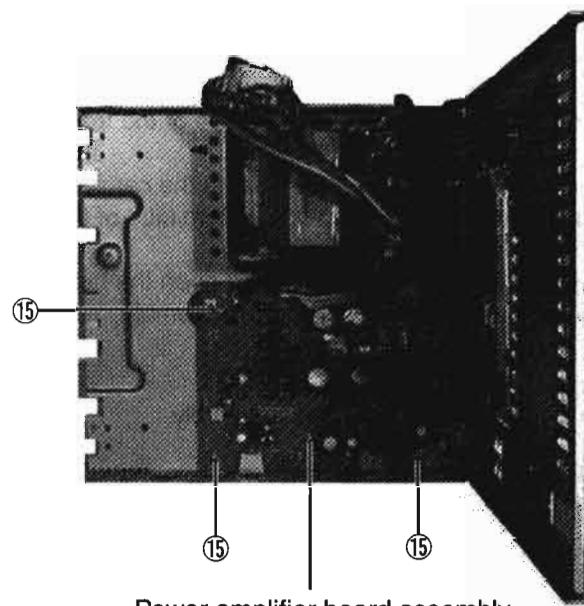

Fig. 13
8. Remove the three screws ⑰ fastening the power amplifier board assembly. (See Fig. 13)